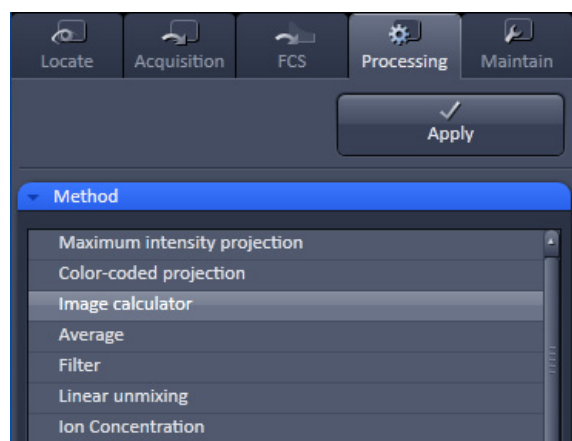

Fig. 108 Activating the Image Calculator
- To open the **Image calculator** tool (Fig. 108), click on the **Image calculator** in the list of the **Method** panel in the **Processing** tool tab.